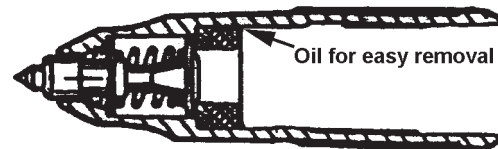

Figure 2
3. Push the bit firmly against some wood to slide the internal parts a few millimeters up into the grip. See figure 2.